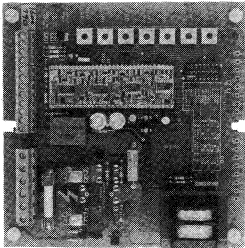

Fig. 1
- 1.1 The 1600 and 3200 Series drives constitute a family of contiguous products ranging from 16 amps to 48 amps, both isolated and non-isolated. All features and terminals are common to all drives; see Figs. 1, 2 and 3 for product identification.